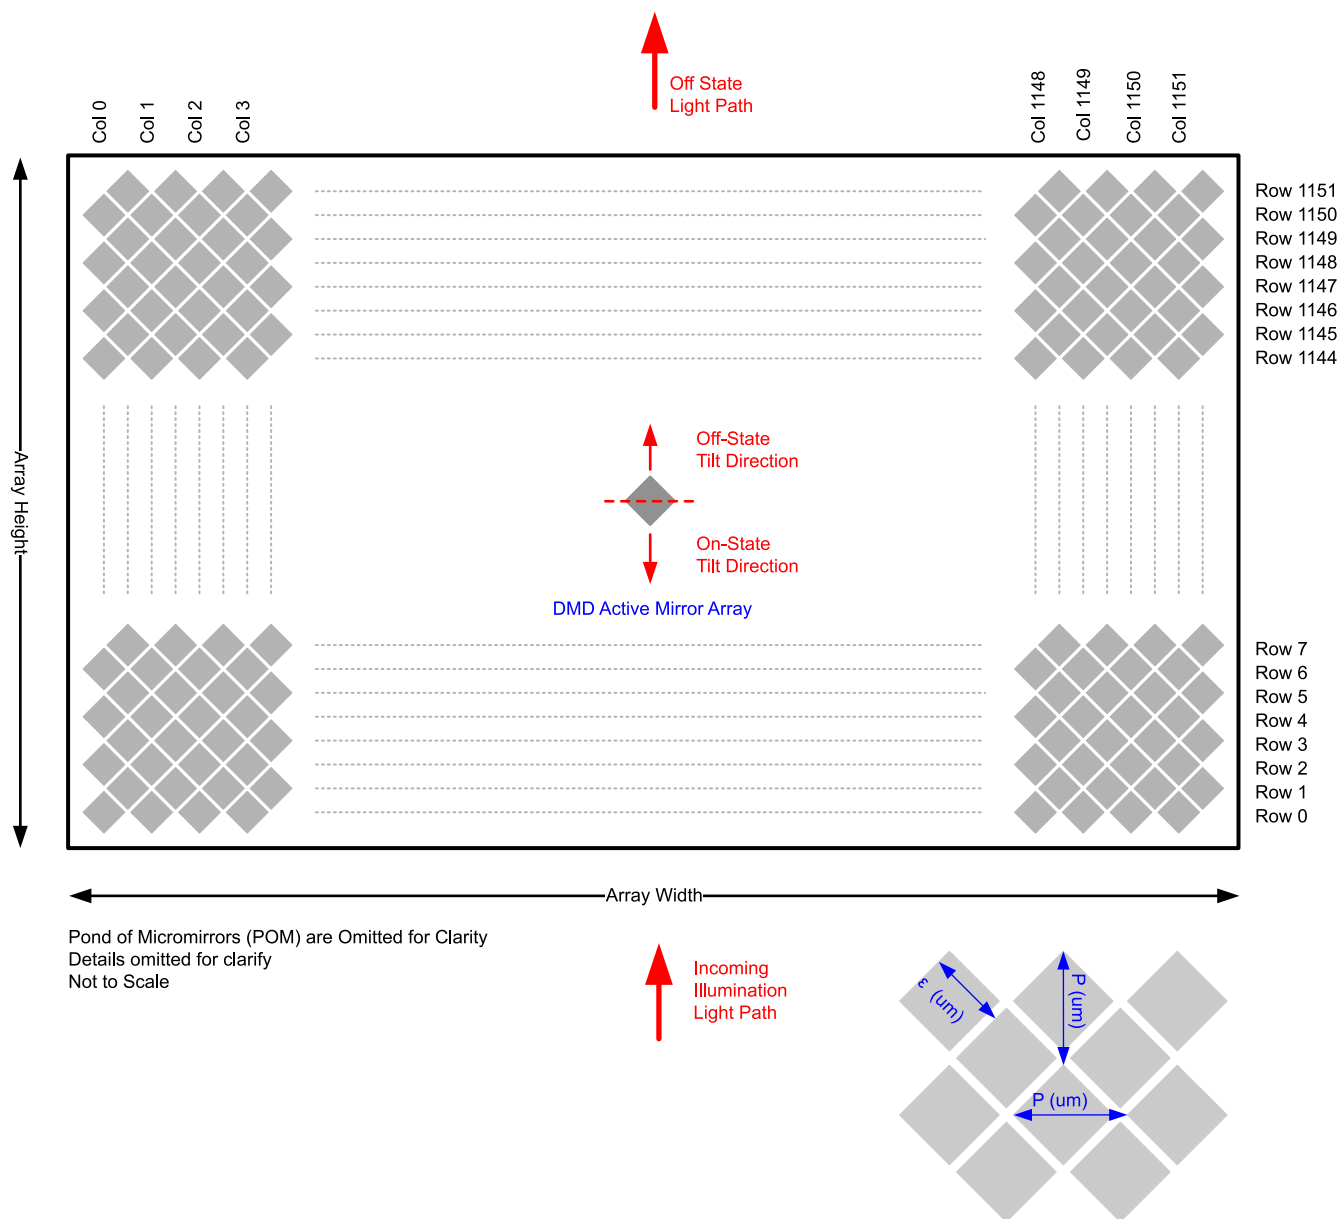

Figure 6-13. Micromirror Array Physical Characteristics
(1) See Figure 6-13
(2) The structure and qualities of the border around the active array includes a band of partially functional micromirrors called the POM. These micromirrors are structurally and/or electrically prevented from tilting toward the bright or ON state, but still require an electrical bias to tilt toward OFF.
The DLP5531A-Q1 Automotive DMD consists of 1,327,104 highly reflective, digitally switchable, micrometer-sized mirrors organized in a two-dimensional array. As shown in Figure 6-13, the micromirror array consists of 1152 micromirror columns $\times$ 1152 micromirror rows in a diamond pixel configuration with a 2:1 aspect ratio.